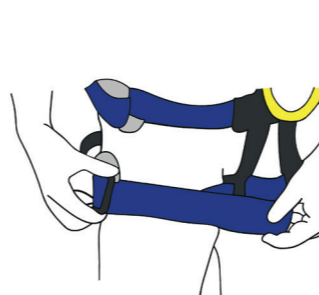

Fig 7
7. Connect the connector to the connection loop (Merlin) or the chest ascender to the connection loop using the maillon (Merlin Tech), behind the front 'D', and tighten the shoulder strap. (Fig 7)